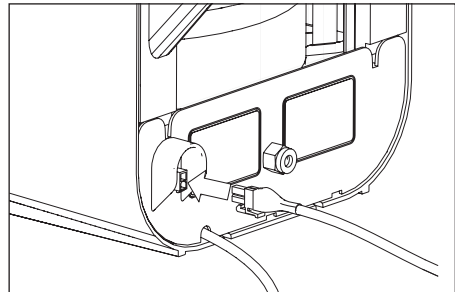

Fig. 8.4 Connecting the wire on to the connector of the water heater
8. Connect the wire from the HotSpot Titanium boiling water tap to the connector at the back of the water heater (hook pointing downwards; see Fig. 8.4).